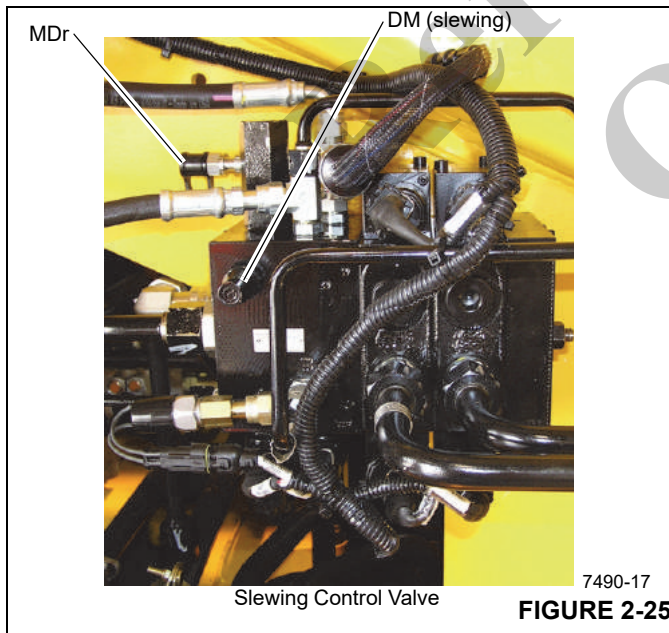

FIGURE 2-25
1. Install a pressure check diagnostic quick disconnect with gauge onto test fitting at the MDr port of the slewing control valve (Figure 2-25).
3. If necessary, adjust pressure at DBV (slewing) to 3989 ±50 psi (275 ±4 bar) (Figure 2-25).